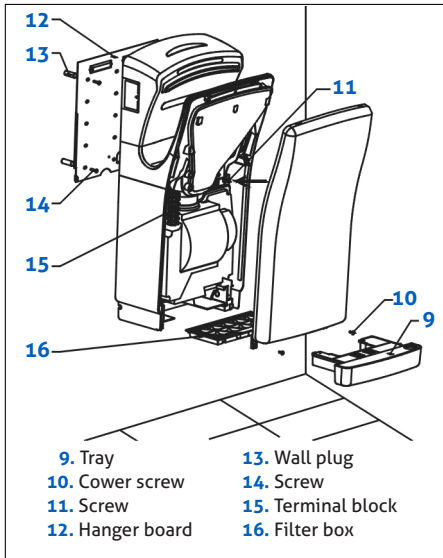

Figure 2
3. Remove and retain tray, 2 cover screws and cover (see fig.2).